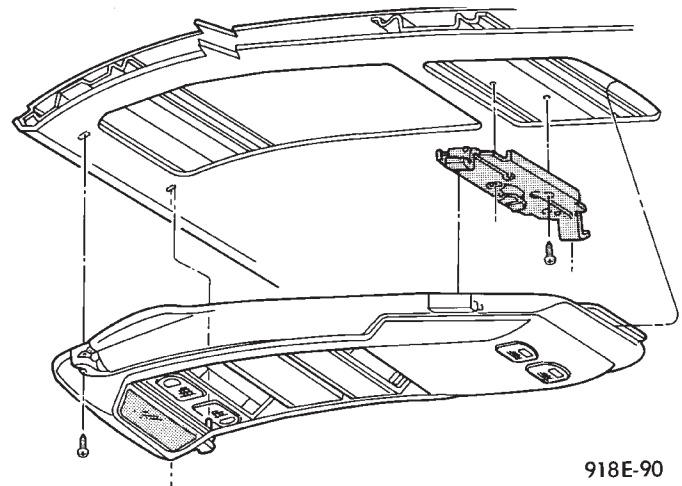

Fig. 5 Overhead Console Mounting
(1) Unscrew the mounting screws (Fig. 5).